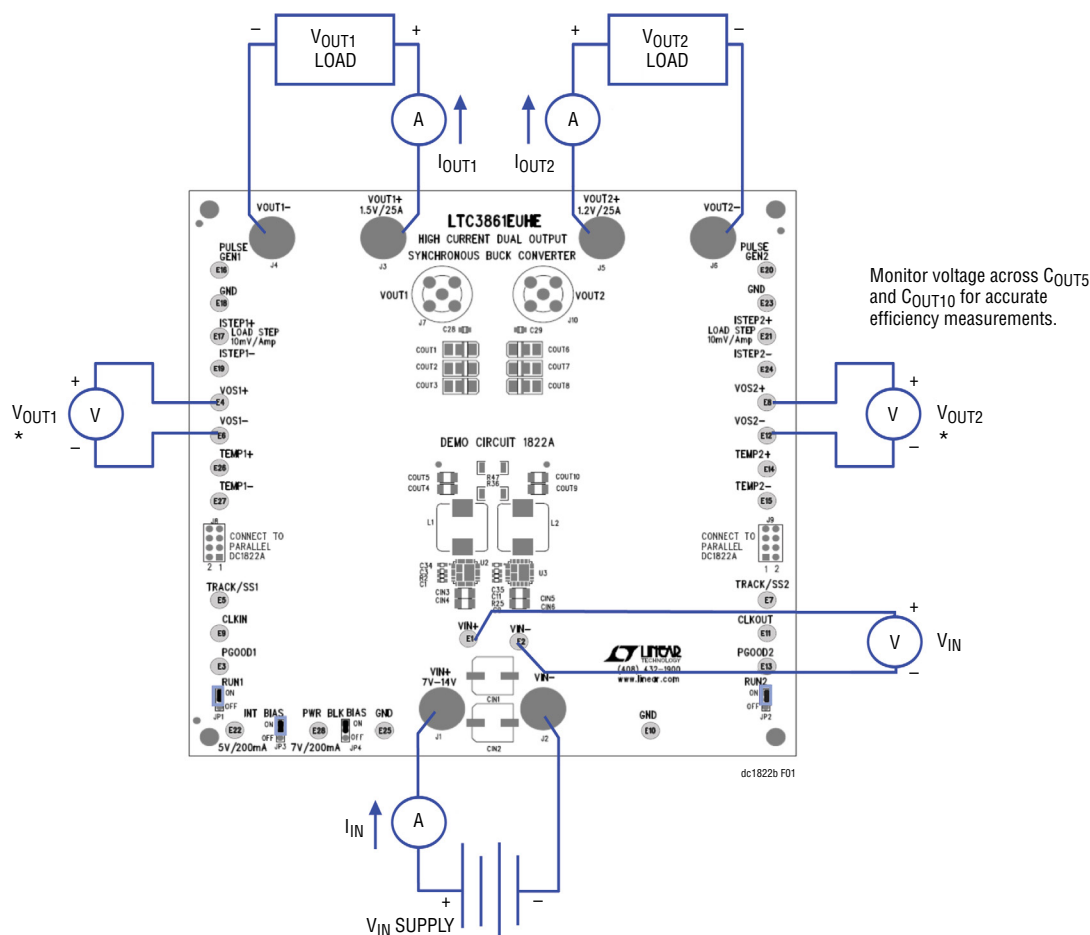

Figure 1. Proper Measurement Equipment Setup
Demonstration circuit 1822B is easy to set up to evaluate the performance of the LTC3861EUHE. Please refer to Figure 1 for proper measurement equipment setup and follow the procedure below.
1. With power off, connect the input supply, load and meters, as shown in Figure 1. Preset the load to 0A and V_{IN} supply to be 0V. Place jumpers in the following positions: